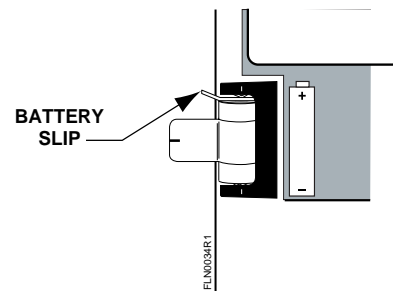

Figure 13. Battery with Mylar Strip.
4. Holding the battery in place, pull mylar strip off of top of battery (Figure 13). Do not remove the battery pull tab.